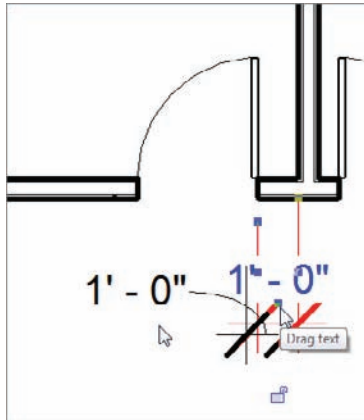

FIGURE 5.41 By grip-editing the text, you can slide it to a cleaner location. Revit automatically places a leader for the text to the dimension line.
8. Notice that there is a blue grip just underneath the text. Pick the grip and move the text out from between the extension lines, as shown in Figure 5.41. Notice that Revit will place a *leader* (an arrow line extending from the model to your text) in the text.